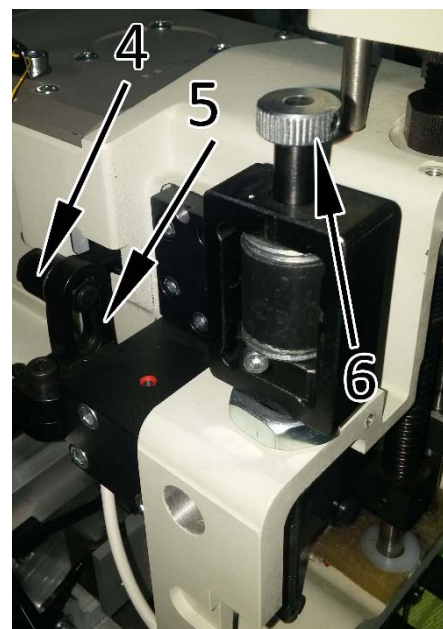

Fig. 22
- c) Lever 4, (Fig. 22), is driven by the eccentric and it is joined with the adjusting pin and nut on the lever with the groove (5) in the part located outside the machine. If the pin is in the upper part of the groove, the presser foot movement is set to minimum. If the pin is in the lower part of the groove, the presser foot movement is set to maximum.